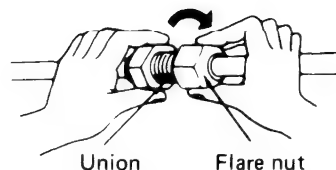

Fig. 26
- For proper connection, hold the tube with union and the flared tube straight with each other, screw in the flare nut lightly at first to obtain smooth match. Fig. 26